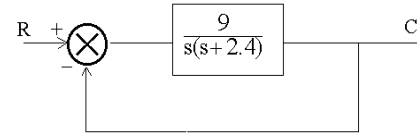

Fig. 2
Q.5 Considering the unity feedback system of Fig. 2, the settling time of the resulting second order system for 2% tolerance band will be _____.